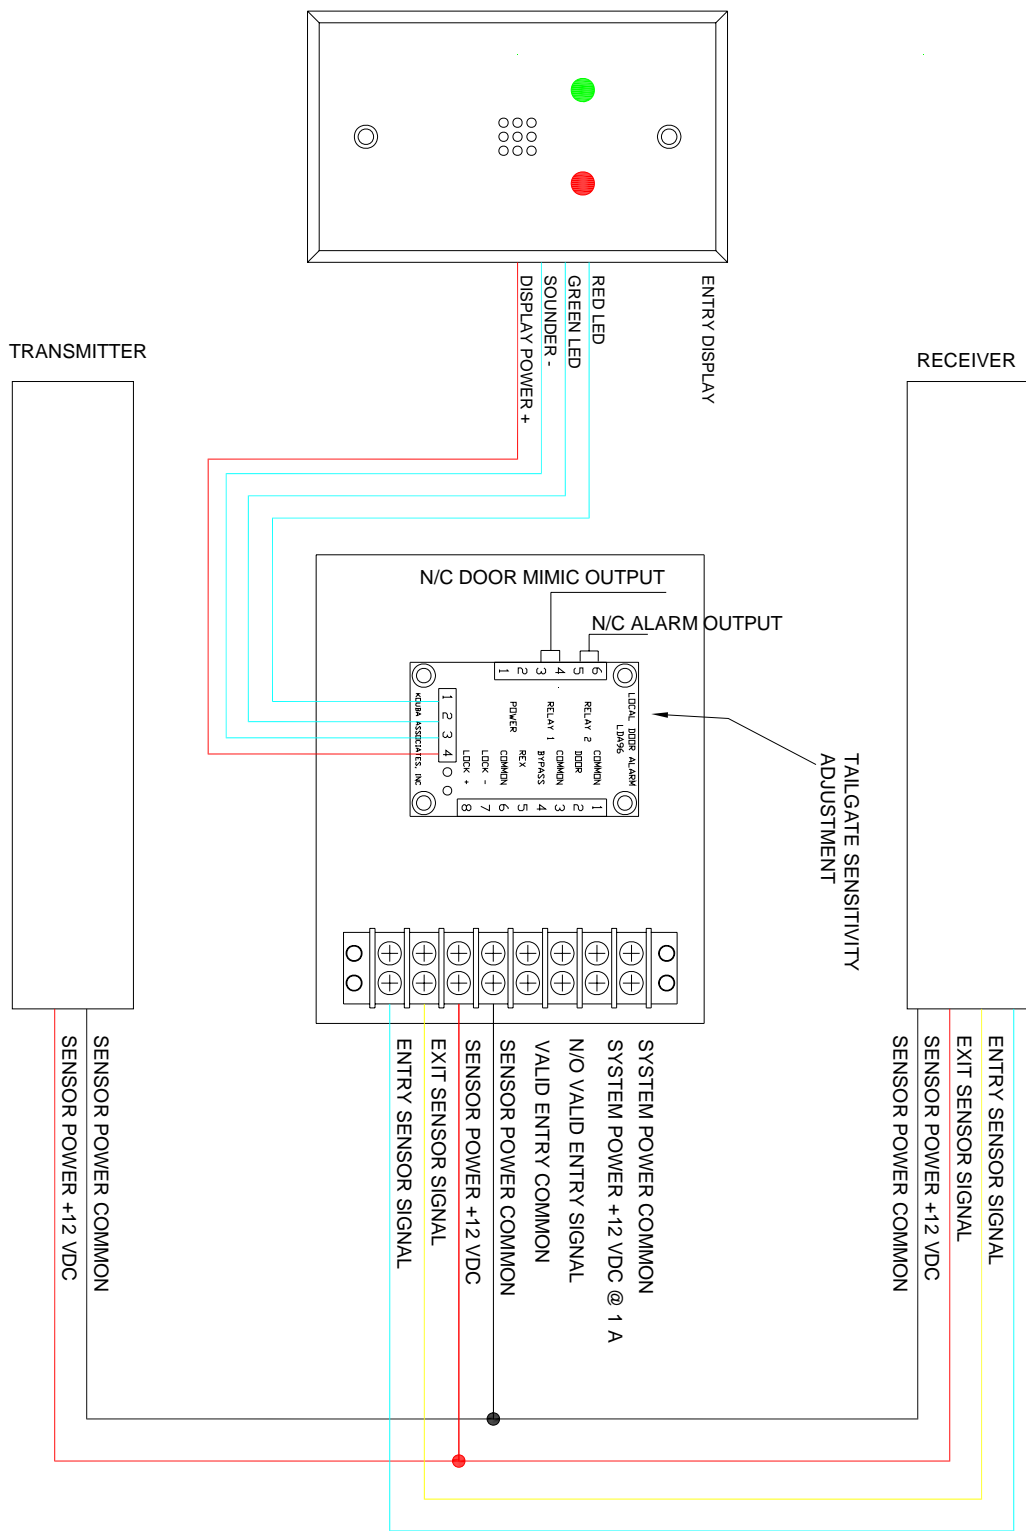

Figure 2 (Card In / Free Exit Sensor and Display Terminations)
18. **THIRD WALK THROUGH TEST:** Present a valid card to the entry reader, and have two people walk through the sensing area close together. An alarm should be generated. Repeat this several times varying the distance between the two people. At some point of closeness, an alarm will not be generated. The tailgate sensitivity adjustment is provided to set the alarm distance between people (refer to Figure 2 for the tailgate sensitivity adjustment). The other potentiometers on the control board are not used.